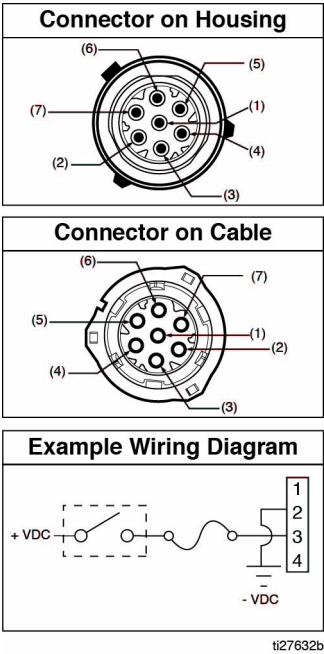

FIG. 5
- See Pin Layout shown in FIG. 5 for proper location in the connector.